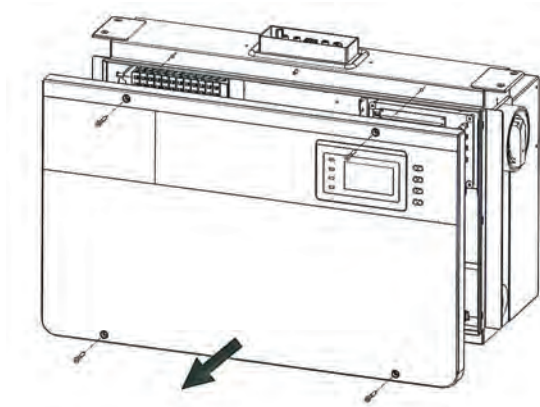

Figure 3-16(a) - Take off the cover of the wiring box
(1) Use a 3mm (0.12in.) Hex screwdriver to remove the 4 screws on the wiring box and take off the cover. (See Figure 3-16(a)).